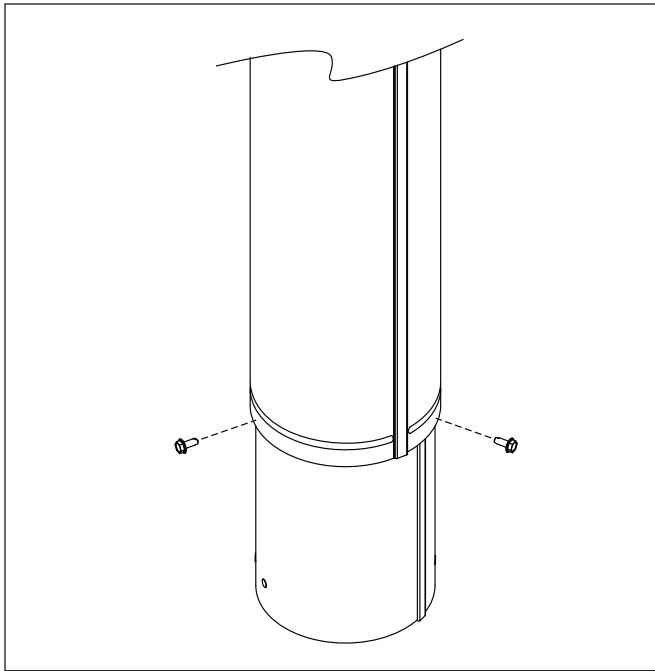

Figure 2. Securing the Flue Body
3. Use three of the self drilling screws to secure the inner and outer flue sections together. As seen in Figure 2, the channel in the outer flue section is provided allow a consistent screw pattern around the circumference of the flue body. The screws must be spaced at even intervals (120 degrees apart) around the flue body.